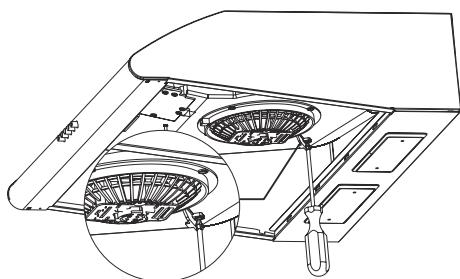

Fig. 7: short throttle
- Install the short throttle found in the installation accessories instead of the long throttle (Fig. 7).